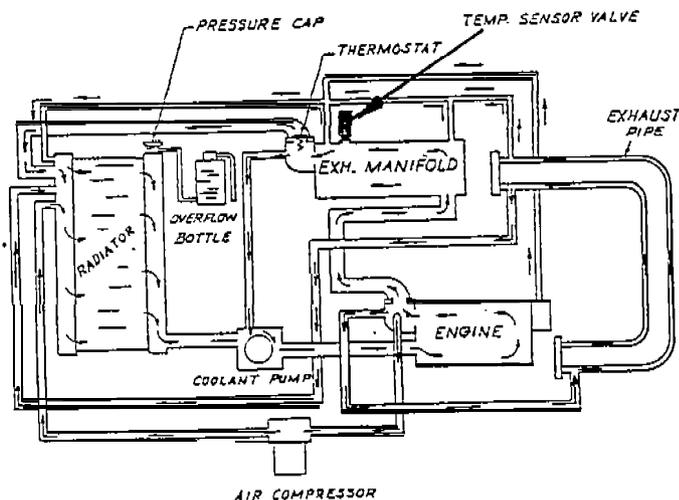

Figure 15. Safety/Cooling System
32. ( ) The Safety/Cooling Systems include coolant temperature sensing using a temperature sensing valve placed in the coolant circuit as shown in Figure 15.